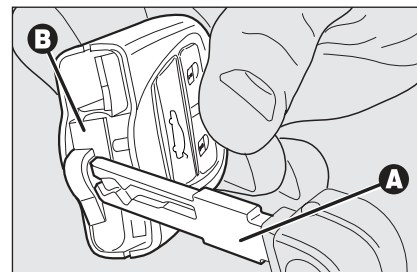

fig. 10
- ☐ remove the snap-fitted case **B**-**fig. 10** (red) by levering with the metal insert **A** of the electronic key in the point shown in the figure;